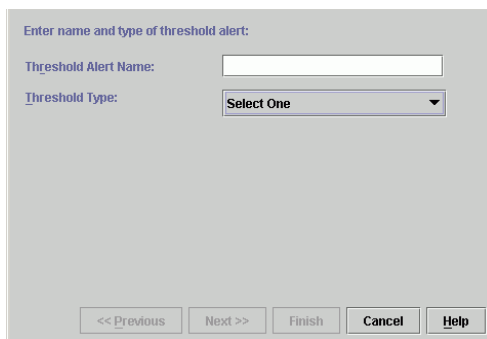

Figure 2-54 New Threshold Alerts Dialog Box (Screen 1)
2. Click *New*. The *New Threshold Alert* dialog box (screen 1) displays (Figure 2-54).